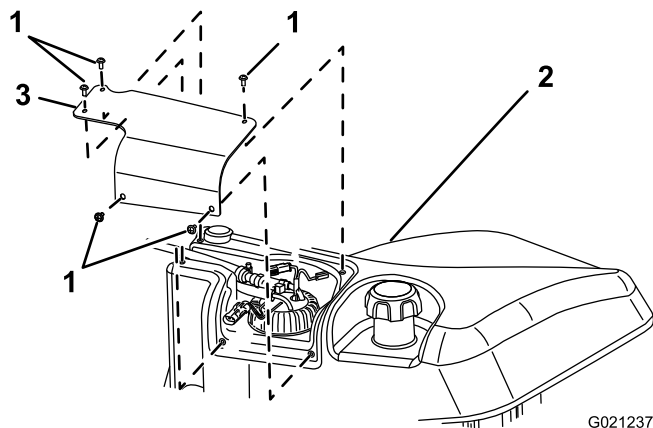

Figure 51
1. Remove the (5) screws securing the fuel pump cover to the fuel tank and remove the cover (Figure 51).